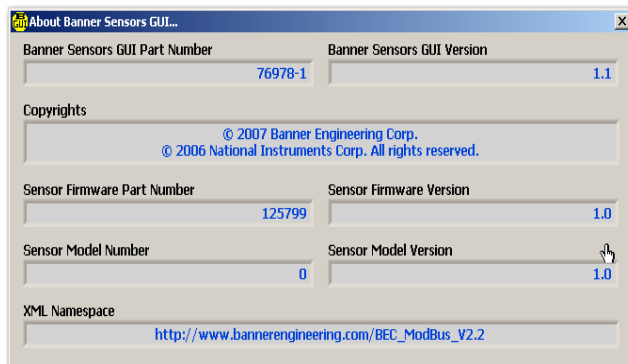

Figure 5-7. Help menu results in About Banner Sensors GUI screen
**Help** (Ctrl + A) provides system version information for reference in the event of a Factory applications help call; see Figure 5-7.